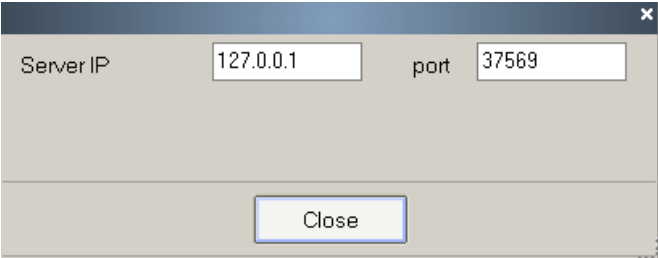

Figure 73.2. Access adjustment window to the program **ASW2**
Application TCP/IP as data base exchange protocol provide possibility to send the commands from the module **Scenarium** to the program **ASW2** (server) by network in remote mode. At the module start from the remote PC where the program **ASW2** is not installed, the destination IP address and computer (to connect and send commands) portal number should be specified. It should be done with adjustment window (see Fig. 73.2), which is initiated by the button  (Parameters) in instruments panel.
- **Connection to server.** Press this button and connect to the program **ASW2** with application of the parameters, shown in Fig. 73.2.